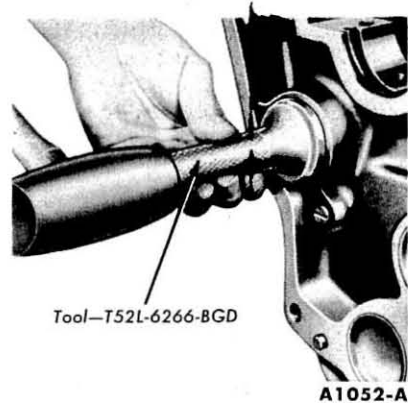

FIG. 25—Camshaft Rear Plug Installation
3. Coat the flange of a new plug with water resistant sealer and install it with the flange facing out (Fig. 25).